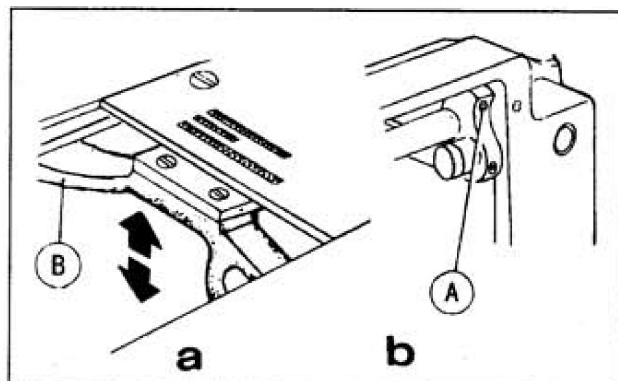

Fig. 22
18. ADJUST THE HEIGHT OF FEED DOG (Fig.22,23)
- 2) Loosen Screw (A) of feed lifting rock shaft crank right (See Fig.22,b)
- 3) Move Feed Bar (B) in the direction shown by the arrow in Fig. 22 (a) to adjust the height of the feed dog. The standard height of feed dog is that the top of feed dog is 1mm above Throat Plate Surface (B).
- 4) After the adjustment, be sure to tighten Screw (A).